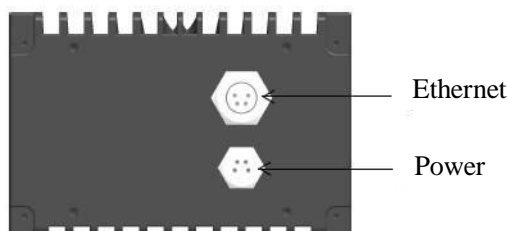

Figure 3 CE30-D aerial plug wiring instructions
- Use the two aerial plug cables attached in the package (including one power supply plug cable and one network port plug cable) to connect the LiDAR with the aerial plug cables as illustrated in Figure 3; connect the power interface to the adapter DC 12V ($\geq 3A$), DC 5.5*2.5mm; connect the aerial plug network port (RJ45) to the computer.